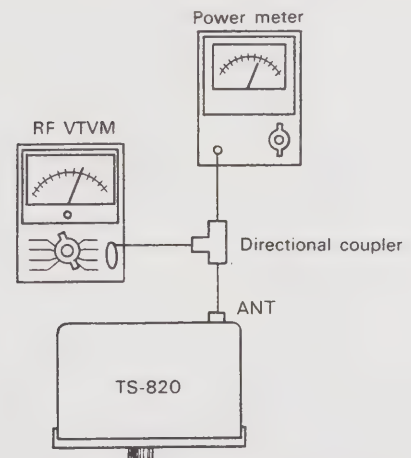

Fig. 34 Adjustment of carrier suppression
- 1) Make connection as shown in **Fig. 34** and adjust 14.175 MHz EW until full power is obtained.
- 1) In **Fig. 34**, make adjustment until maximum output is obtained at 21.225 MHz.